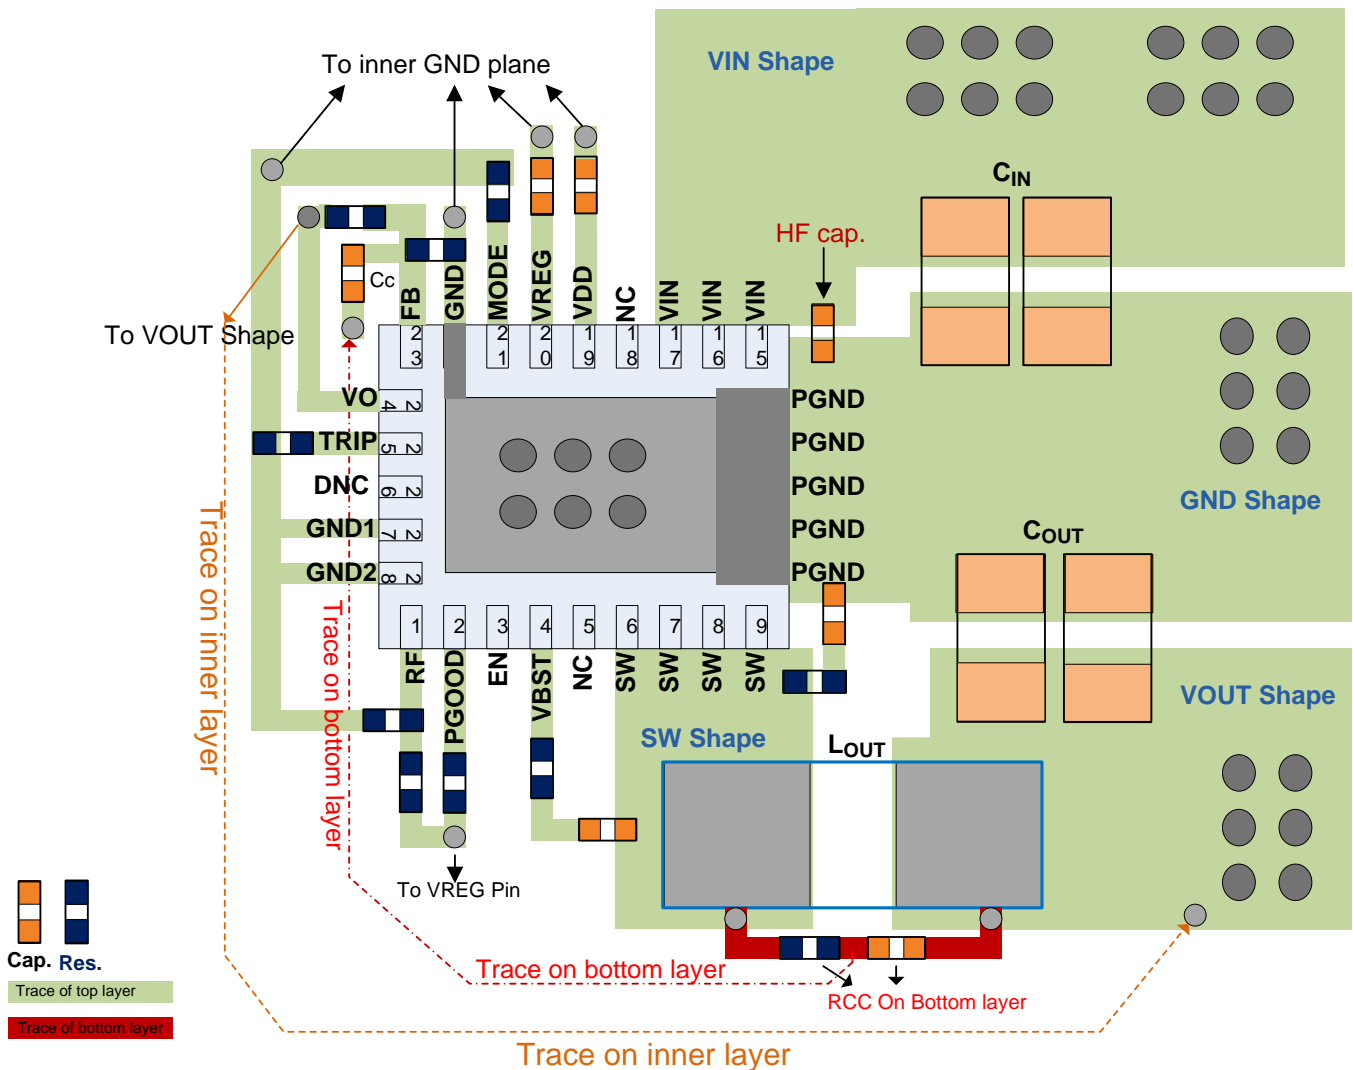

Figure 42. Layout Recommendation
- See Figure 42 for the layout recommendation.